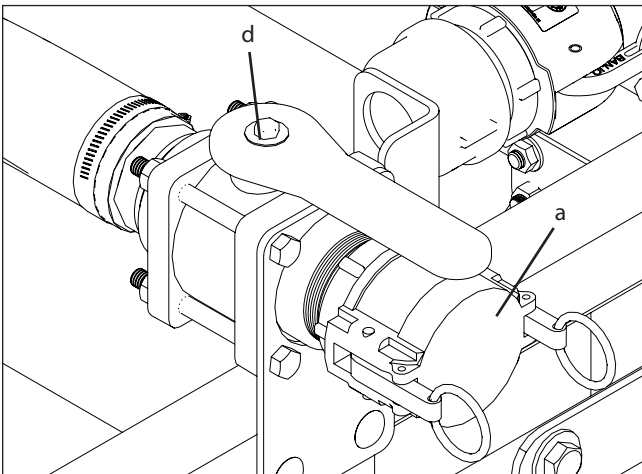

Figure 1: Quick Fill Valve & Dust Cap
2. Remove the dust cap (a) on the quick coupler and connect the transfer hose to the coupler (Figure 1). Open the valve on the nurse tank/transfer hose.
5. Open the valve (d) at the quick coupler (Figure 1).
6. Start the engine to engage the transfer pump (**IMPORTANT:** Make sure pump body is filled with liquid before starting the engine). When the tank approaches the desired level close the quick fill valve (a) (Figure 1) and turn off the transfer pump. Close the valve on the nurse tank/transfer hose.